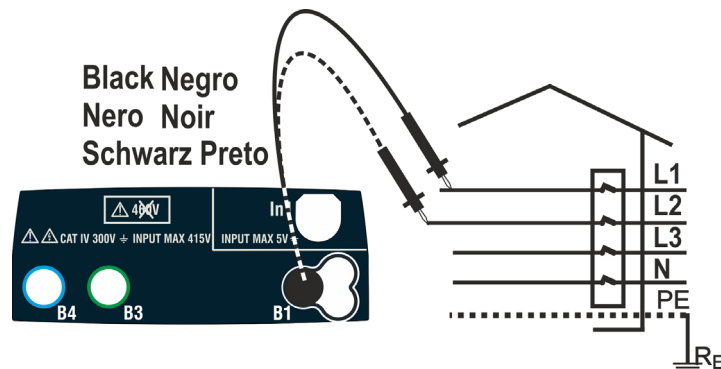
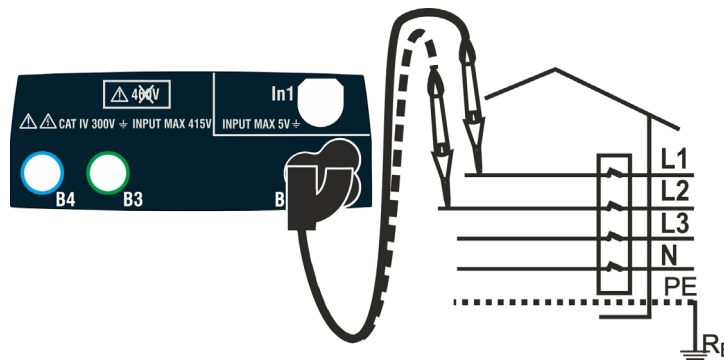

Fig. 31: Phase sequence check with test leads
Fig. 32: Phase sequence check with remote switch probe
2. Insert the black lead connector into the corresponding input B1 of the instrument. As an alternative, use the single cable and apply the relevant alligator clips to the free ends of the cables. It is also possible to use the remote switch probe by inserting its multipolar connector into the input B1. Connect the alligator clips or the remote switch probe to the electrical mains according to Fig. 31 or Fig. 32.
5. Under these conditions, connect the alligator clips, the tips or the remote switch probe to phase L2 in accordance to Fig. 31 or Fig. 32.